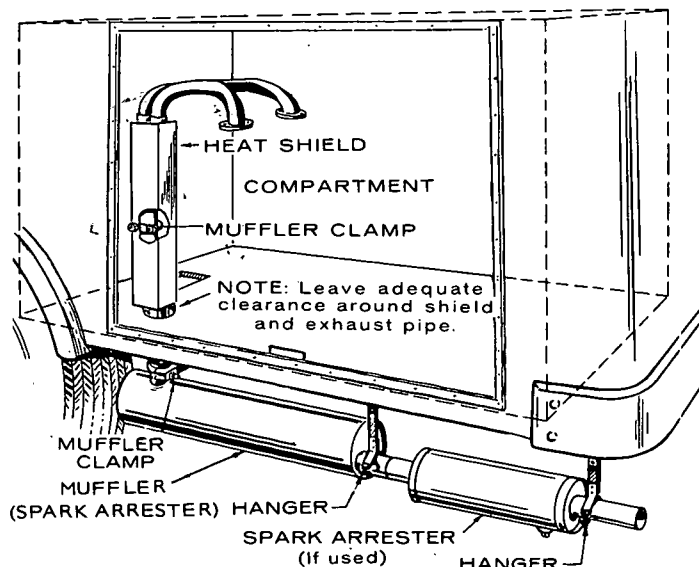

FIGURE 6. TYPICAL EXHAUST SYSTEM INSTALLATION
1. Where the exhaust system passes through the base or floor, leave adequate clearance as protection against exhaust pipe damage from vibration (Figure 6).